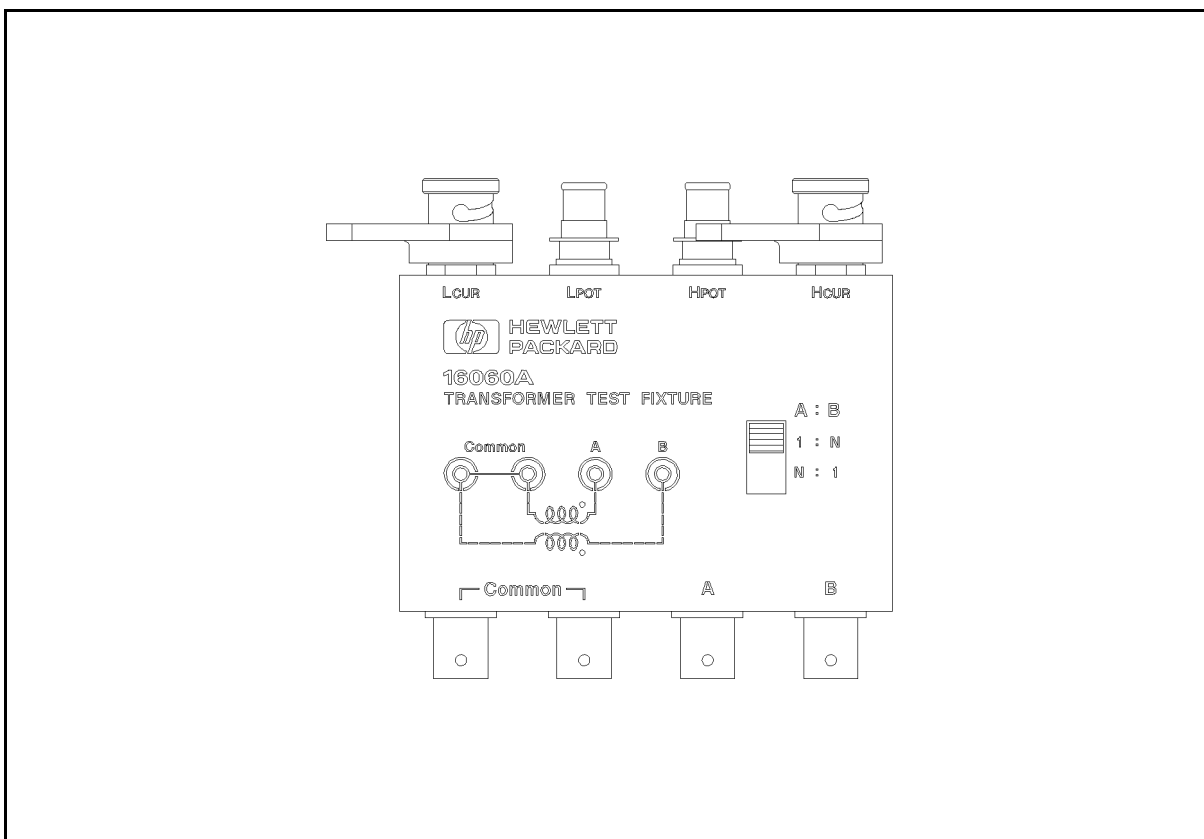
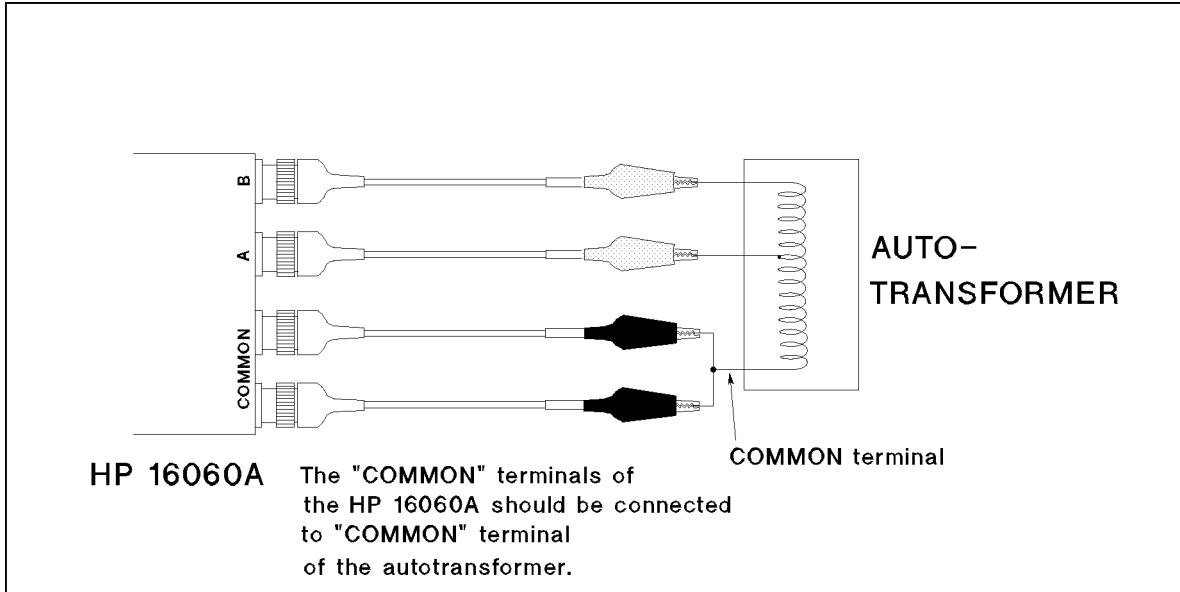

Figure 3-1. Test Fixture Features
Figure 3-4. Connecting an Autotransformer
This chapter describes the features of the 16060A (Figure 3-1), and describes how to connect a transformer to the test fixture (Figure 3-3 and Figure 3-4), how to set the A:B switch for different measurements, how to physically extend the measurement distance from the 4263A using cables and test leads, and describes the internal circuit of the 16060A.
3. *COMMON terminals.* These terminals are connected using test leads to the common (low) terminals of the transformer to be measured as shown in Figure 3-3 and Figure 3-4.
4. *A terminal.* Terminal A is connected using a test lead to one of the high terminals of the transformer under test as shown in Figure 3-3 and Figure 3-4.
5. *B terminal.* Terminal B is connected using a test lead to the other high terminal of the transformer under test as shown in Figure 3-3 and Figure 3-4.
5. The Figure 3-3 and Figure 3-4 show the connecting a transformer.
When the transformer to be measured has a terminal common to both the transformer's primary and secondary (for example: an autotransformer), connect the COMMON terminals of the 16060A to the common terminal of the transformer, because the COMMON terminals of the 16060A are connected together inside in the 16060A. (See Figure 3-4 and Figure 3-5.)
When the 16060A is used to measure an autotransformer, connect the test leads as shown in Figure 3-4.